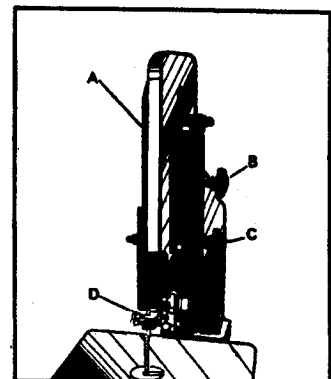

Fig.19
After tension has been applied to the blade, revolve the wheels slowly forward by hand and watch the blade (A) Fig. 19 to see that it travels in the center of the upper tire. If the blade begins to creep toward the front edge, turn the knob to the left and this will tilt the top of the wheel toward the back of the machine and will draw the blade toward the center of the tire. If the blade creeps toward the back edge, turn the knob to the right. Adjust the knob (B) only a fraction of a turn at a time. Never track the blade while the machine is running.
The upper blade guide assembly (D) Fig. 19, should always be set as close as possible to the top, surface of the material being cut by loosening lock handle (C) and moving the guide assembly (D) to the desired position.